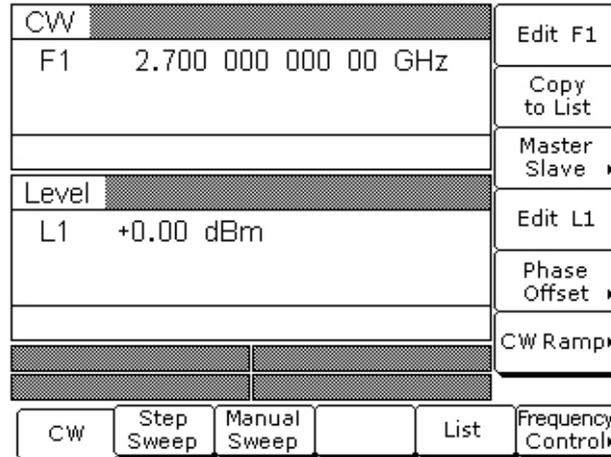

Figure 5-4. CW Menu
- a. Reset the instrument by pressing **System**, then Reset. The CW menu is displayed (Figure 5-4).